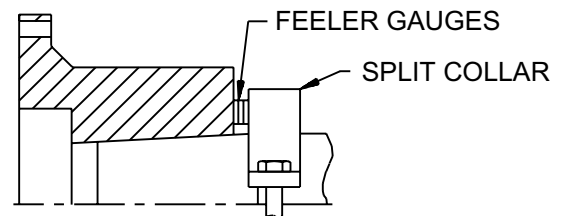
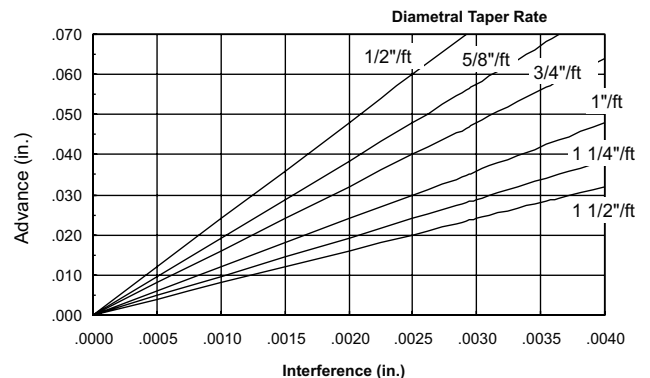

Figure 2. Using Split Collar to Set Advance
Figure 3. Hub Advance vs. Interference Chart
- 2.5 Taper Bores Only: A recommended method to measure the hub advance is to install a split collar on the shaft, away from the hub by the amount of the specified advance. Use feeler gauges for accurate spacing. See Figure 2. The amount of hub advance is dependent upon the desired interference and taper angle as specified by the machine manufacturer or as given on the coupling drawing. See Figure 3.